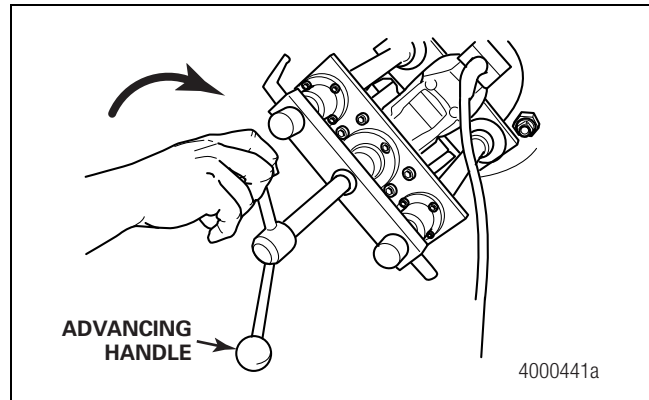
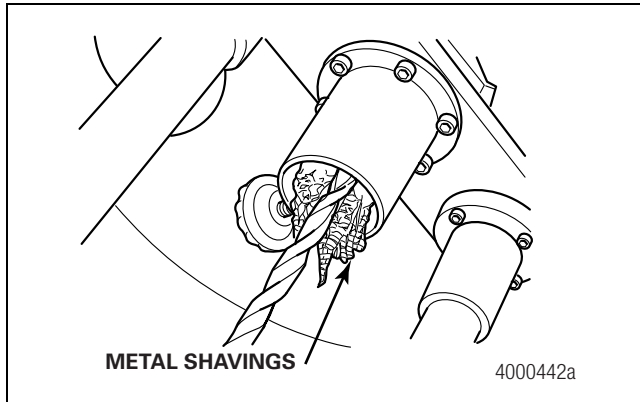

Figure 2.34
Figure 2.35
- Turn the advancing handle **CLOCKWISE** until the drill bit bottoms out on the spindle. Then, back off the handle one full turn. Figure 2.34.
- Turn the motor **ON** and drill into the spindle by slowly turning the advancing handle **CLOCKWISE** with a smooth, steady feed. Remove the drill bit guide periodically to remove metal shavings. No lubrication is needed during the drilling operation. Check that the guide rails are clean to ensure that the drill will advance smoothly. Figure 2.34 and Figure 2.35.